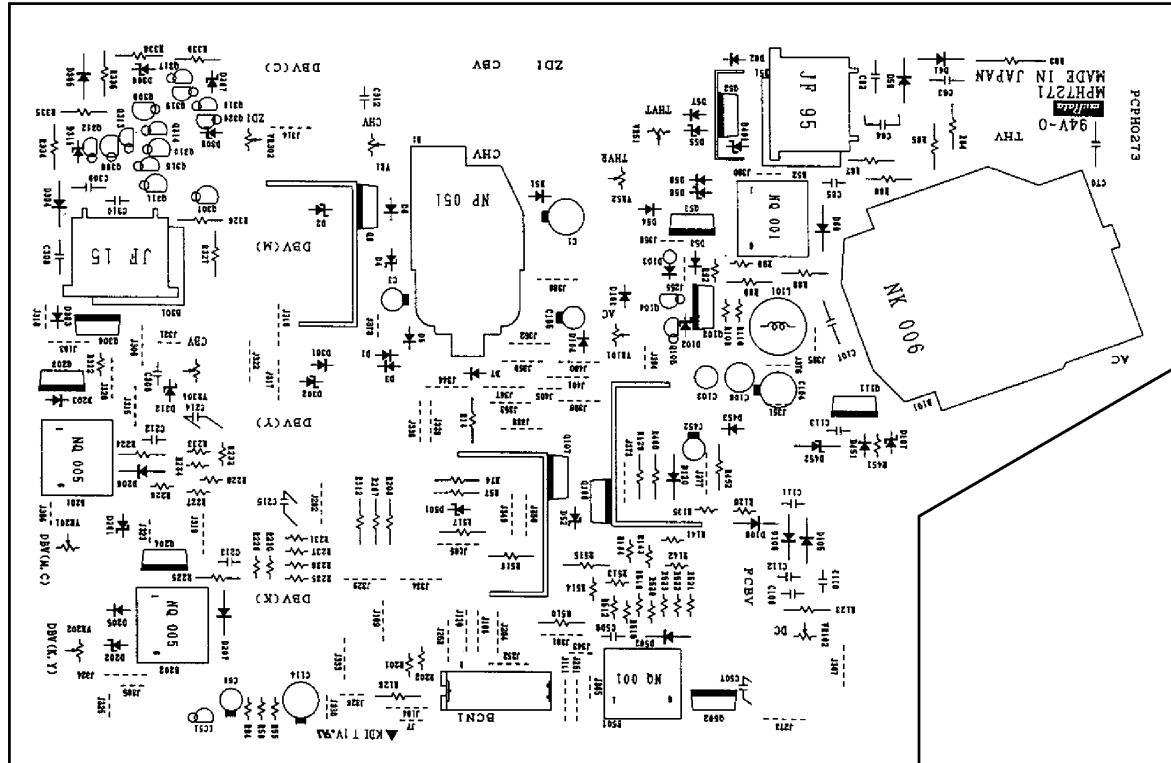

Fig.4-41
(2) Layout of Connector Pin Assignment See Fig.4-41 on the following page.